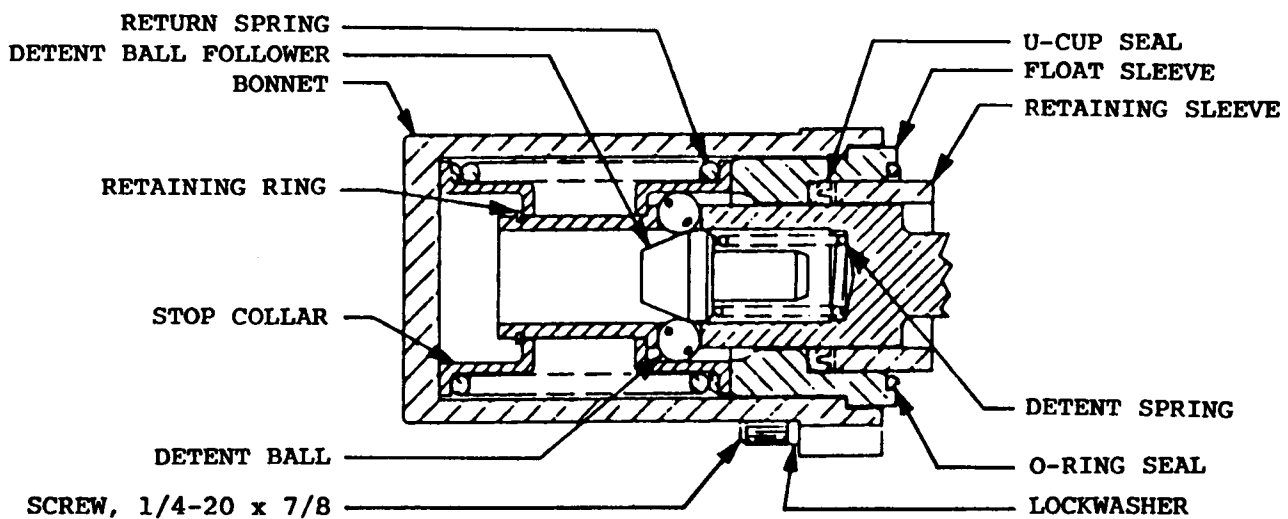

FIG 9
17. Paint on valve spool, sticking valve.....clean valve spool. Binding is usually spool, or scored valve spool. caused from an over tightened plug, mounting bolt, fitting in valve body, or tie rod bolt. If a plug or fitting in valve body is leaking do not over tighten in an effort to stop leak. This will distort body casting and cause spools to bind. Instead, the plug or fitting should be removed from valve body and be reconnected, using a new O-ring. Do not apply excessive pressure on mounting bolts. The rods should be torqued to 20 ft-lb. Never force spool, if binding occurs, see item 31 at the end.
18. Oil leakage past spool seal into.....remove cap, if it contains oil, replace spool cap. spool seal O-rings. Check O-ring retainer to see if it is flat. If it has been "belled" check for restriction from outlet to reservoir of valve which would cause excessive back pressure, see item 31 at the end and Fig 9.
19. Broken return springs.....replace springs, see item 31 at the end and Fig 9.
3. At the BACK of the valve remove all bonnet assembly parts which are connected to the spool, keep parts in the order of disassembly. See Fig 9 for the parts involved in the make-up of the bonnet assembly.
Replace retaining sleeve on valve spool. Lightly oil new U-cup seal. Slide U-cup seal over valve spool being careful to orient seal as shown in Fig 9. Install new O-ring seal in bonnet counter-bore.